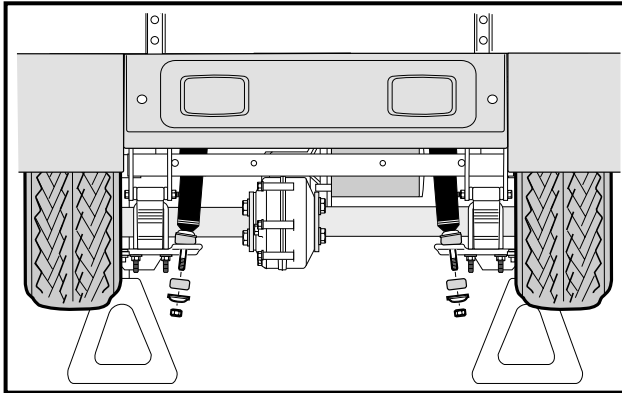
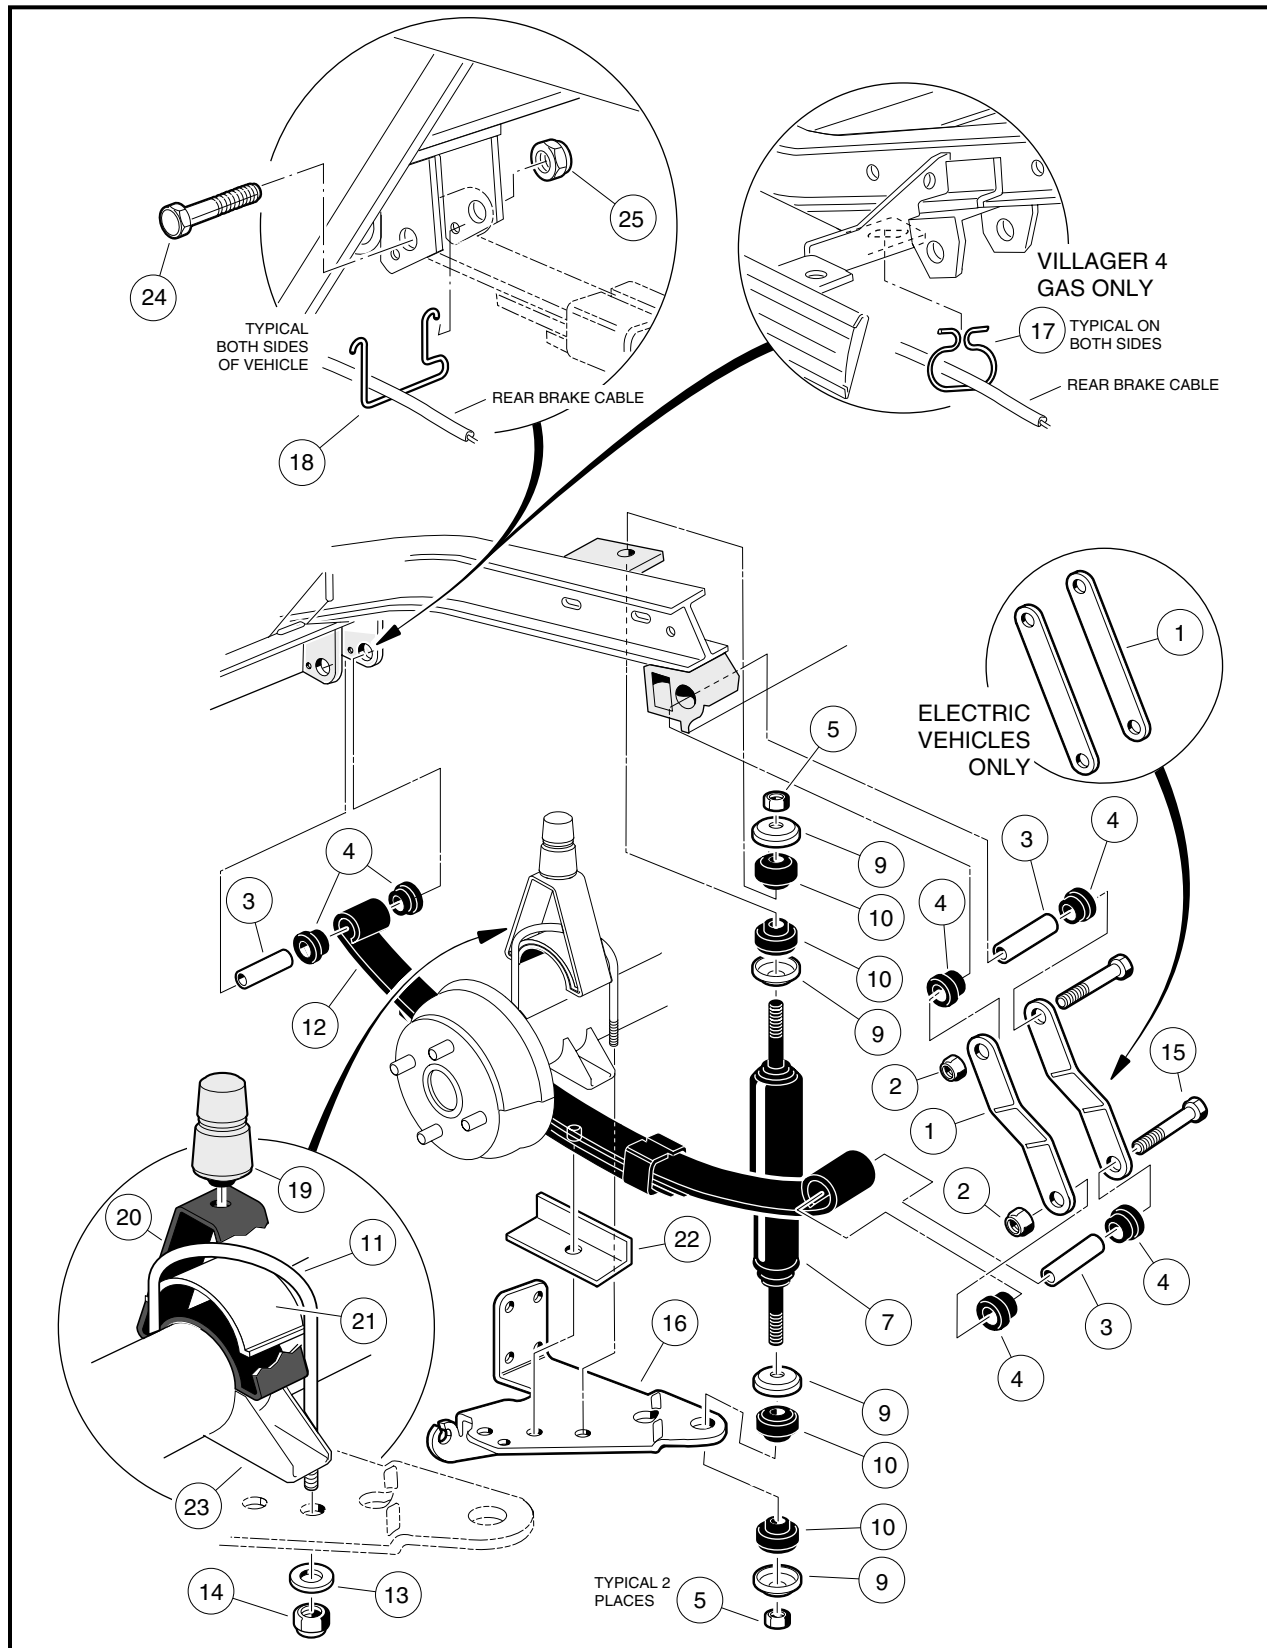
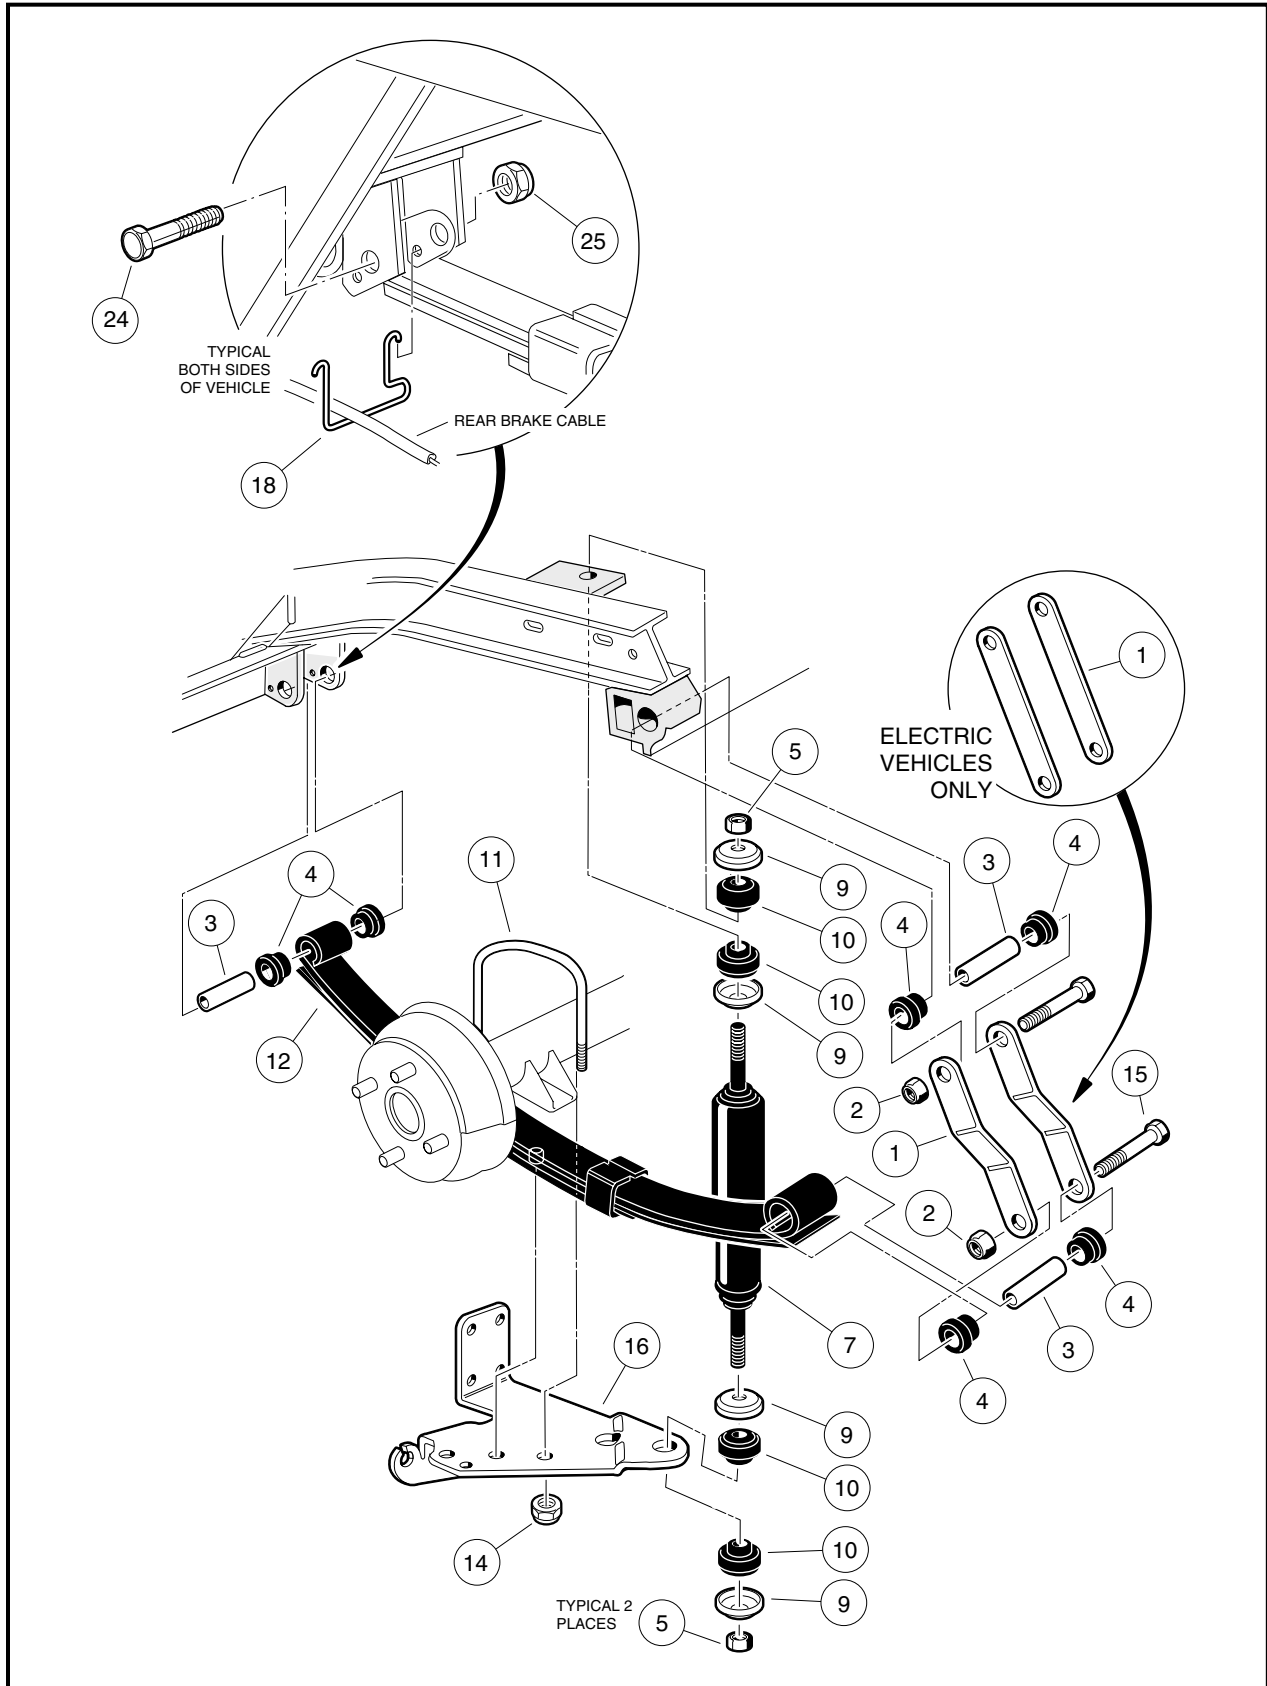

Figure 9-1 Remove Shock Absorbers
Figure 9-3 Rear Suspension – Villager 4 Vehicles
Figure 9-4 Rear Suspension – All Transportation Vehicles Except Villager 4
1. Check shock absorbers (7) for damage and fluid leakage around the lower housing of the shock absorber body. Replace damaged or leaking shock absorbers (**Figure 9-3, Page 9-6** or **Figure 9-4, Page 9-7**).
2. To remove a shock absorber (7), remove the nut (5), cup washer (9), and rubber bushing (10) from the upper shock absorber stem.
3. Remove lower mounting hardware (5, 9 and 10) on shock absorber lower mount (**Figure 9-3, Page 9-6 or Figure 9-4, Page 9-7**). See also **Figure 9-1, Page 9-3**.
2. On the upper shock absorber mount, tighten nut (5) until rubber bushing (10) expands to size of cup washer (9) (**Figure 9-3, Page 9-6 or Figure 9-4, Page 9-7**).
3. On the lower shock absorber mount, install mounting hardware. Tighten the nut (5) until the rubber bushing (10) expands to the same diameter as the cup washer.
NOTE: Villager 4 vehicles are equipped with jounce bumpers (**Figure 9-3, Page 9-6**).
5. Remove lower nut (5), cup washer (9), and rubber bushing (10) from shock absorber (7) (**Figure 9-3, Page 9-6 or Figure 9-4, Page 9-7**).
- 6.1. Remove the lock nuts (14) and flat washers (13) (if present) attaching the U-bolt (11) to the shock mount bracket (16). Remove jounce bumper mount (20) and spacer (21) (**Figure 9-3, Page 9-6**).
- 6.2. Allow shock mount bracket (16) to rotate downward and remove spring retainer (22). Do not disconnect brake cable from bracket (**Figure 9-3, Page 9-6**).
- 7.1. Remove the lock nuts (14) attaching the U-bolt (11) to the shock mount bracket (16). Do not disconnect brake cable from bracket (**Figure 9-4, Page 9-7**).
8. Raise axle with floor jack until axle saddle (23) is 1 inch (2.5 cm) above spring (**Figure 9-3, Page 9-6**).
9. Remove bolt (15) and lock nut (2) attaching the leaf spring (12) to the rear shackle (1) (**Figure 9-3, Page 9-6 or Figure 9-4, Page 9-7**).
10. Allow rear of leaf spring (12) to rest on the ground and remove the bolt (24) and lock nut (25) attaching the front of the spring to the vehicle frame (**Figure 9-3, Page 9-6 or Figure 9-4, Page 9-7**). Remove spring from vehicle.
11. Inspect the rubber bushings (4) and steel sleeves (3) in the spring eyes and replace them if they are worn or damaged (**Figure 9-3, Page 9-6 or Figure 9-4, Page 9-7**).
1. Install rubber bushings (4) and steel sleeves (3) into leaf spring eyes if bushings were removed (**Figure 9-3, Page 9-6 or Figure 9-4, Page 9-7**).
2. Place front of leaf spring (12) into vehicle frame and insert bolt (24) through frame and leaf spring eye. Install lock nut (25) and tighten to 15 ft-lb (20.3 N·m).
3. Align the other end of leaf spring with the holes in the spring shackles (1). Insert bolt (15) through leaf spring eye and shackles. Install lock nut (2) and tighten to 15 ft-lb (20.3 N·m). Lower transaxle onto leaf spring (12).
- When placing transaxle on spring, be sure to position locating bolt on the spring in the locating hole in the transaxle saddle (23) (**Figure 9-3, Page 9-6**).
- 4.1. Install spring retainer (22) and shock mount bracket (16) onto locating bolt at bottom center of leaf-spring (**Figure 9-3, Page 9-6**). See preceding **CAUTION**.
- 4.2. Position jounce bumper mount (20) with spacer (21) onto axle tube. Install U-bolt (11), flat washers (13) (if present), and lock nuts (14). Tighten U-bolt to 25 ft-lb (34 N·m) (**Figure 9-3, Page 9-6**).
- 5.1. Install shock mount bracket (16) onto locating bolt at bottom center of leaf-spring (**Figure 9-4, Page 9-7**). See preceding **NOTE**.
- 5.2. Install U-bolt (11) and lock nuts (14). Tighten U-bolt to 25 ft-lb (34 N·m) (**Figure 9-4, Page 9-7**).
1. Grip jounce bumper (19) and pull from bumper mount (20) (**Figure 9-3, Page 9-6**).
1. Insert jounce bumper (19) into bumper mount (20) (**Figure 9-3, Page 9-6**). Make sure the entire circumference of bumper is seated firmly in mounting hole.